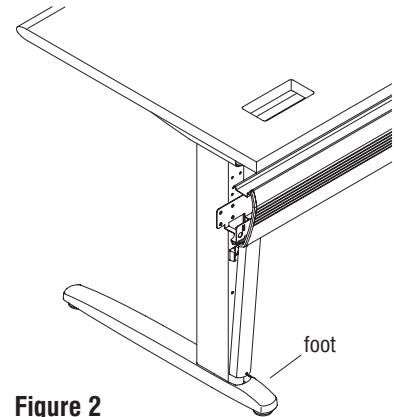

Figure 2
2. Lift and tilt the wireway out until the D-Shaped hole in the foot is cleared (Figure 2).